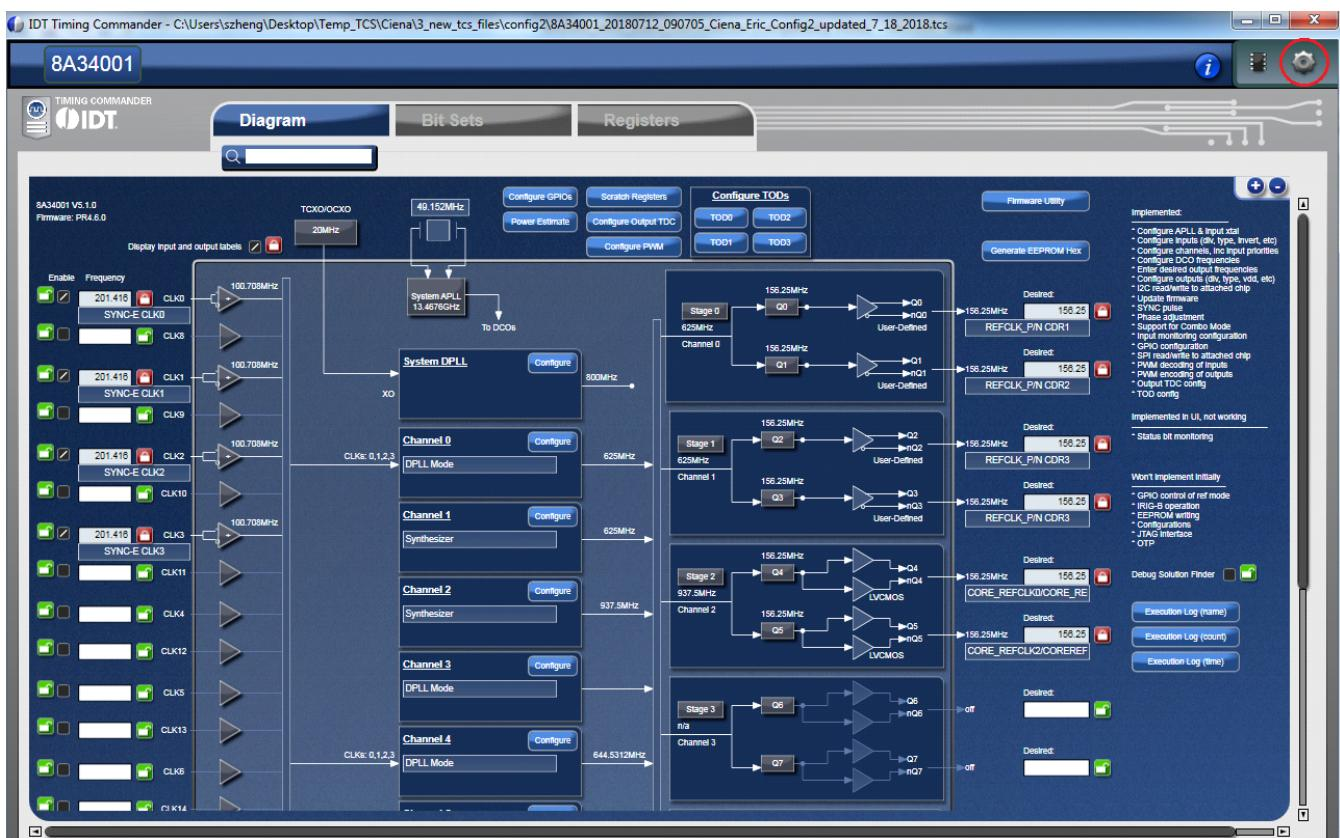
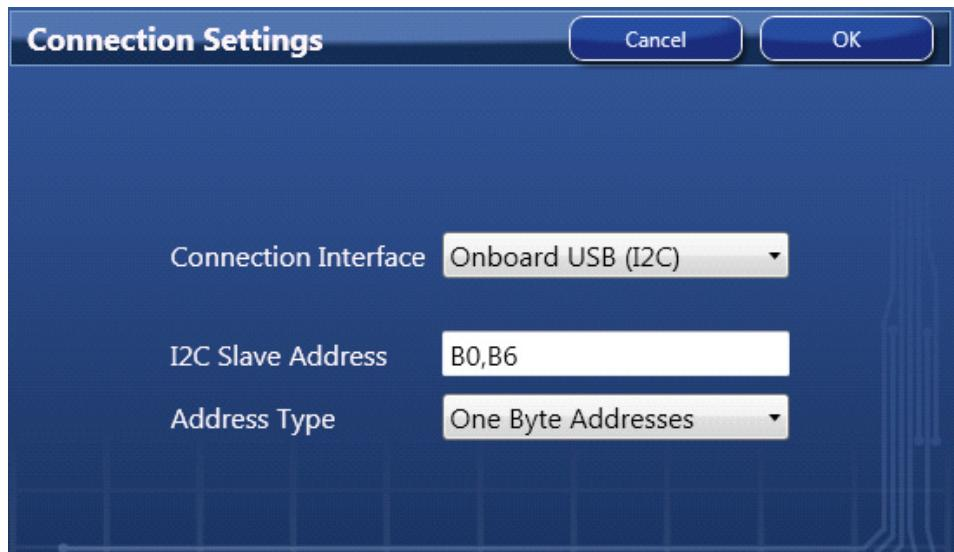

Figure 8. Timing Commander GUI with a Settings File Opened
Figure 9. Setting I2C for Connecting the Board with GUI
4. The GUI window with the 8A34001 block diagram will open for configurations; or if “Open Settings File” is selected in Step 3 above, you will be prompted to browse and select an existing .tcs file and the personality file. When the configuration file is open, all configured values will be displayed as in Figure 8.
5. In order to connect the board with Timing Commander (PC), click the button (red circle) at the up-right corner of the GUI to set up the communication protocols (see Figure 8). After I2C and one-byte addressing are selected, click OK to close the window (seeFigure 9).